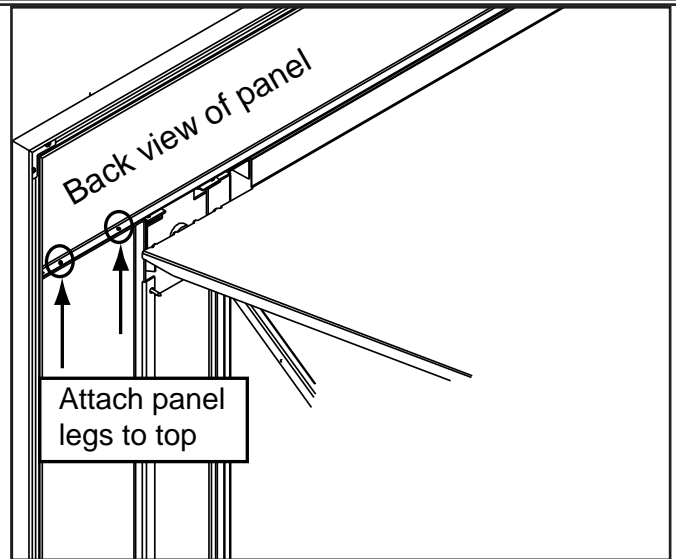

Figure 36.2
1. Attach the panel legs to the top panel using a Phillips head screwdriver. There are 2 screws for each leg. **Figure 36.2.**